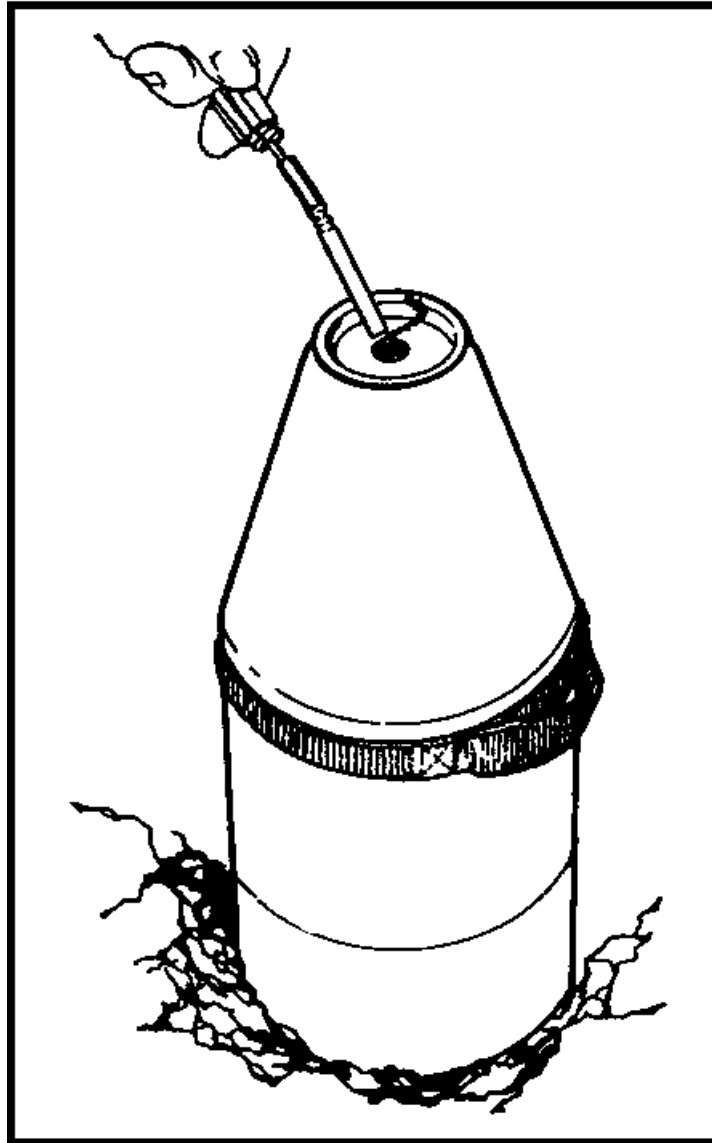

Figure 051-193-1311-19
- i. Insert the blasting cap into the threaded cap well of the shape charge. Secure the blasting cap by tightening the priming adapter into the threaded cap well (Figure 051-193-1311-19).